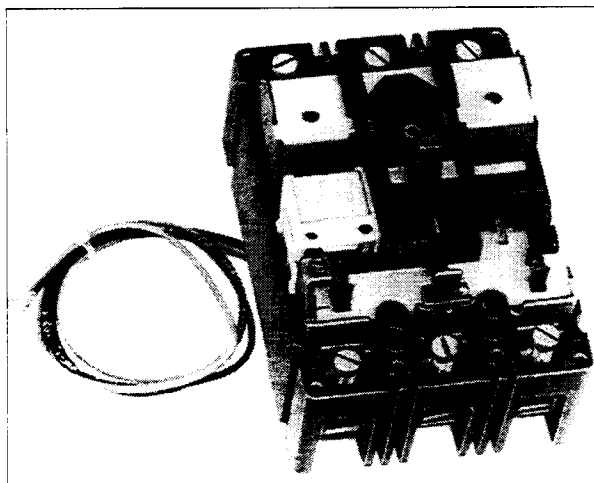
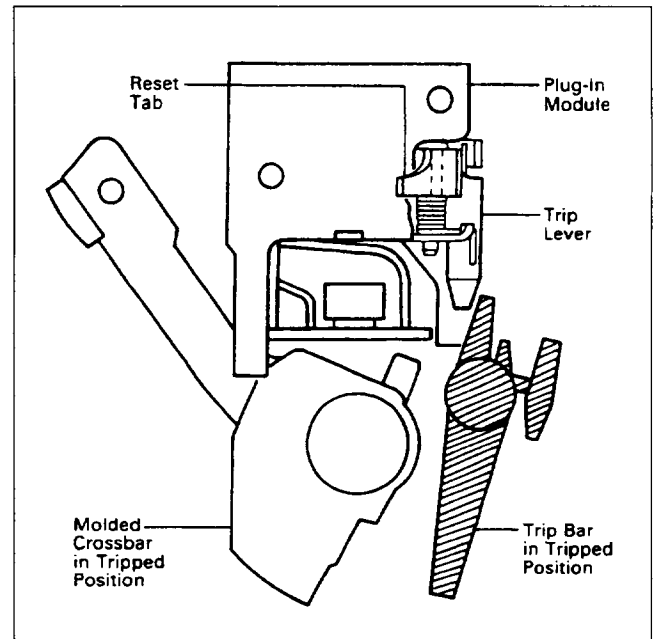

Fig. 1-1. Undervoltage Release Mechanism (Handle Reset) Installed in F-Frame Motor Circuit Protector
Fig. 2-7. Correct Position for Trip Lever and Trip Bar
The undervoltage release mechanism (UVR) (Fig. 1-1) monitors a voltage (typically a line voltage) and trips the motor circuit protector (HMCP) when the voltage falls to between 70 and 35 percent of the solenoid coil rating. The UVR consists of a continuous rated solenoid with a plunger and tripping lever mounted in a plug-in module. The tab on the tripping lever resets the UVR when normal voltage is restored and the HMCP handle is moved to the reset (OFF) position. With no voltage applied to the UVR, the HMCP contacts will not touch when a closing operation is attempted.
- f. **Before plug-in module seats fully in mounting slots, reset the circuit breaker and put the handle in the OFF position. Press down UVR module to seat accessory. Make sure UVR trip lever touches flat surface of trip bar (see Fig. 2-7) and reset tab is operated by the handle arm. (See Fig. 1-1.)**